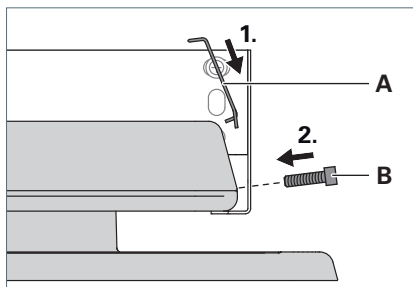

Fig. 6: Hanging the retaining plate into the luminaire.
- ▶ Hang the retaining plate **A** into the luminaire, see Fig. 6.